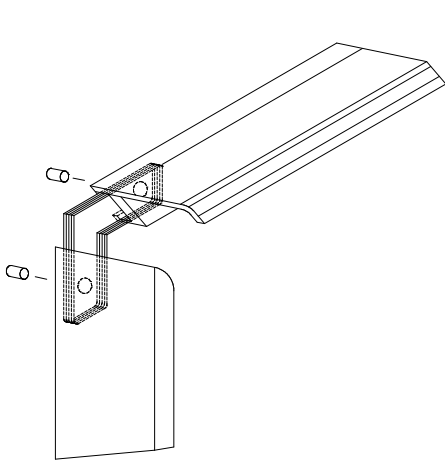

Figure 3.5
2. Assemble the faceplate trim, attaching the mitered corners with the corner brackets. (see Figure 3.5)